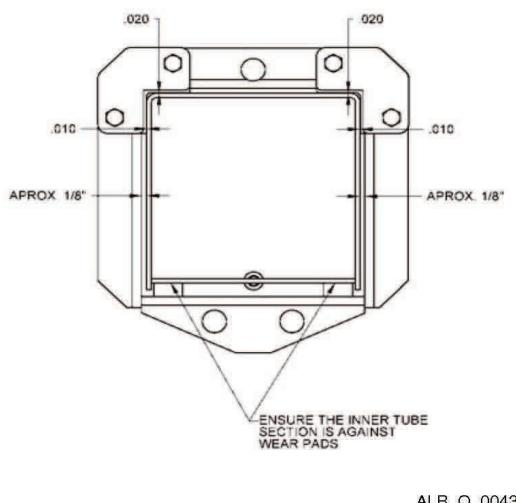

Figure 34
2. Use 1/8 in. spacers to center the inside tower in the middle of the outside tower (**Figure 34**).
3. Using a .010 in. shim and .020 in. shim for spacers, place a .010 in. shim between the friction block and the inner tower section sides (**Figure 34**).
4. Make sure the inner tower is against the 3/8 in. thick UHMW blocks mounted inside the outer tower and use the .020 in. shim to set the friction block distance from the inner tower section (**Figure 34**).